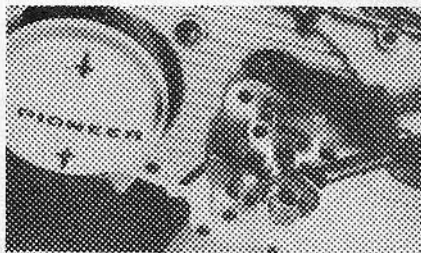

Fig. PR3-18—View showing method of using puller to remove cover from gearbox.
cover to the crankcase. Heat the gearcase cover around plug (4), then remove cover, leaving outside bearing (24) on shaft (30). Special puller (No. 471108) can be used as shown in Fig. PR3-18, to push the shaft out of cover instead of heating.